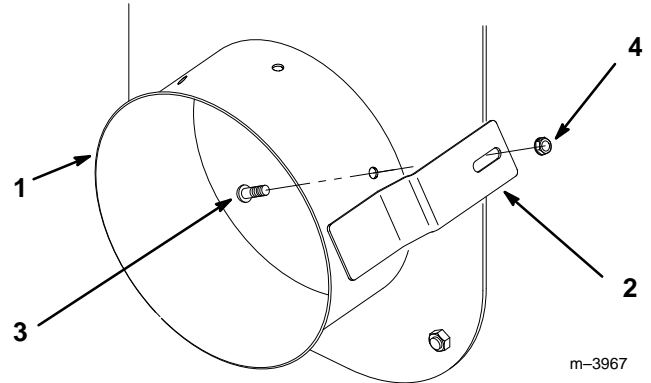

Figure 3
Note: To ensure that the holes are aligned in the correct position, it is helpful to position a guide strap on the blower housing with upset toward blower opening and against flared flange (Fig. 3) when marking the holes.
3. Place (3) guide straps outside the blower opening with the upset toward blower opening and against the flared flange (Fig. 3).
4. Secure each strap to the blower housing with a 1/4-20 x 3/4" (19 mm) bolt, through from the inside of the housing, and a 1/4-20 flange locknut (Fig. 3).